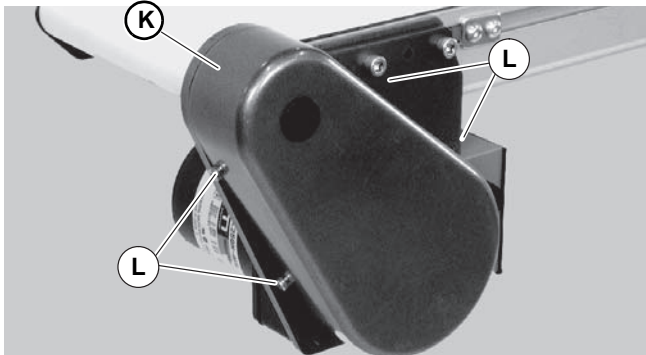

Figure 14
1. Remove four (4) screws (Figure 14, item L) and remove cover (K).
4. Install cover (Figure 14, item K) with four (4) screws (L). Tighten screws to 35 in-lb (4 Nm).
6. Install cover (Figure 14, item K) with four screws (L). Tighten screws to 4 Nm.
3. Remove four screws (Figure 14, item L) and remove cover (K).